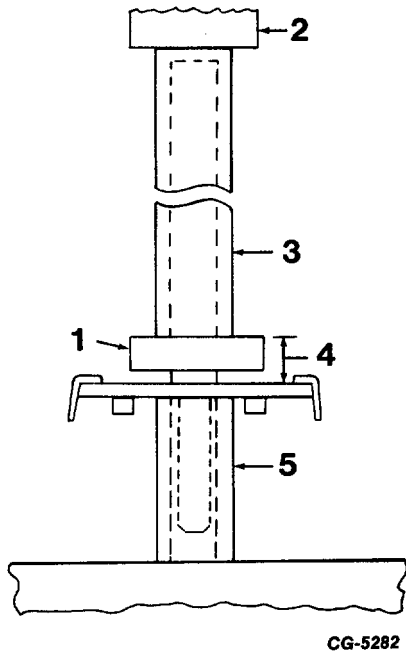

Fig. 41 Installing Tachometer Drive Bearing
- a. Using a piece of pipe 12.7 mm (1/2 inch) I.D. x 60 mm (2 1/4 inches) long as a support base (Figure 41), position distributor shaft in press.
- c. Using a piece of pipe 12.7 mm (1/2 inch) I.D. of suitable length as a driver tool, press bearing onto shaft to a dimension of 14.3 mm (9/16 inch) from bottom of advance weight plate to bottom of bearing (Figure 41).